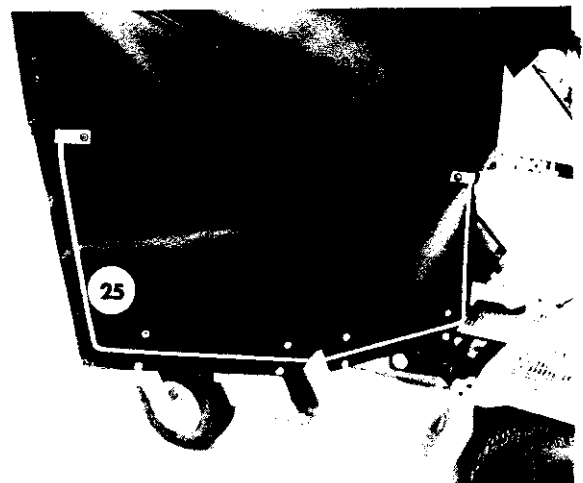

FIGURE 13
STEP 13; SEE FIGURE 13:
- B. Place the DOOR BOTTOM (25) over the bolts add nuts and tighten. Close the snap flaps around the rod.